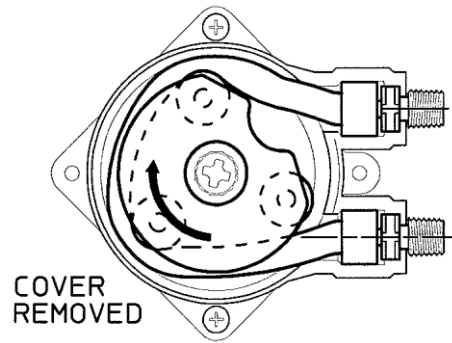

Figure 7b: Pump Head Assembly with Front Cover Removed
4. Remove the two thumb screws holding on the pump head cover and remove - See figure 7b above.